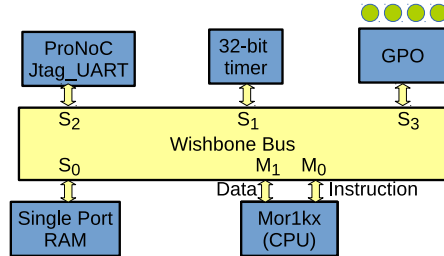

Figure 5.1: The schematic of desired SoC in this tutorial.
Figure 5.1 illustrates the desired hardware architecture in this tutorial. This architecture consists of:
7. A Clock source (not shown in Figure 5.1).
2. In parameter setting set `M` (master interfaces number) as 2 and `S` (slave interfaces number) as 4. These values are obtained from Figure 5.1. You can change them later if you want to add/remove any IPs.